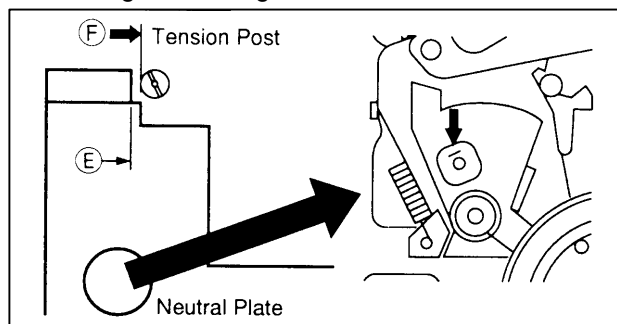

Figure M44
2. Turn the Mode Gear to set the Mechanism position in the play mode, that the Soft Brake of the Pad Arm Unit just touch to the Supply Reel Table as shown in Fig.M44.
3. Set the Mechanism Plate on the Mechanism Chassis as shown in Fig.M44.